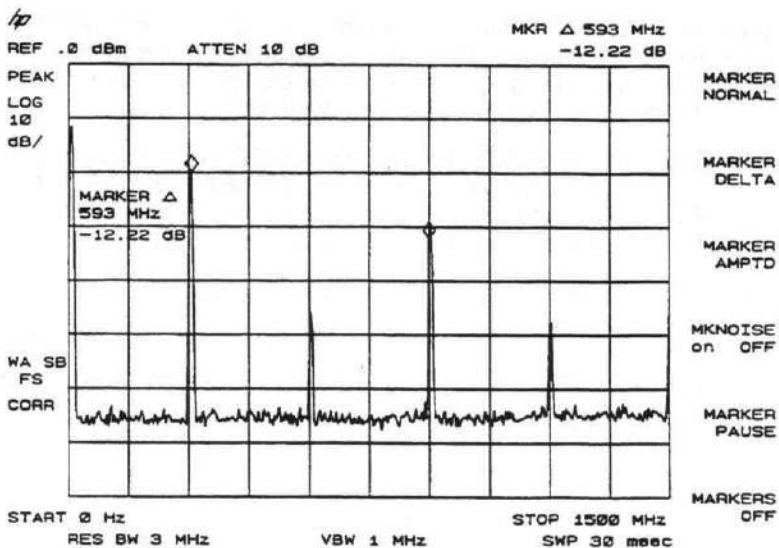

Figure 2-8
4. The amplitude and frequency difference between the markers is displayed in the active function block and in the upper-right corner of the screen. See Figure 2-8.